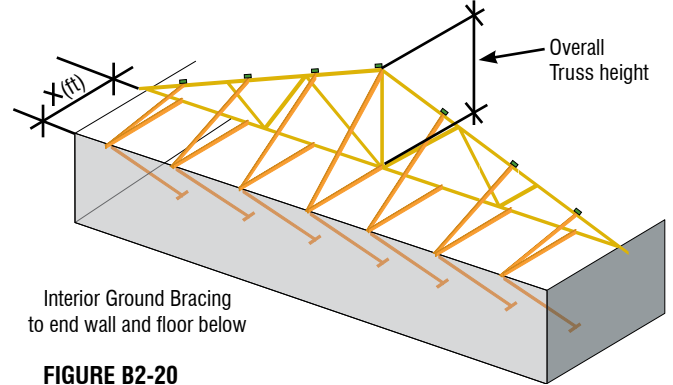

FIGURE B2-20
- ✓ Example of first Truss installed with interior Ground Bracing to top of wall and back to floor below (see Figures B2-20 and 21).